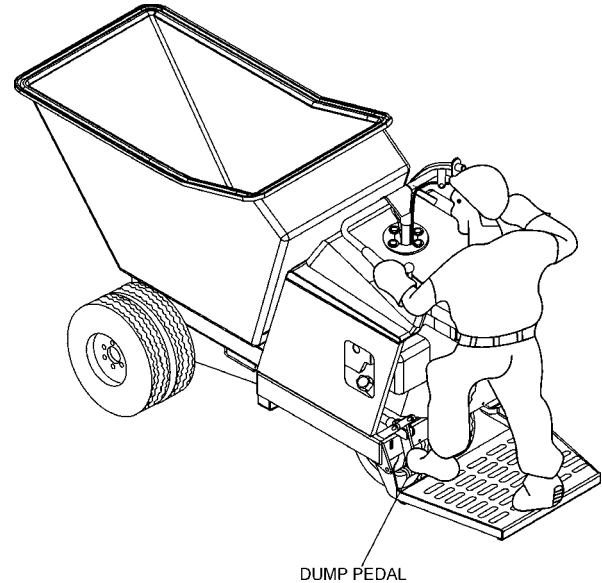

Figure 23. Dump Pedal
1. To activate the hydraulic dump, press down on the dump pedal (Figure 23) or move the dump control lever forward. The tub will move to the vertical position as long as pressure is continuously applied to the dump pedal or the dump control lever is held in the forward position.